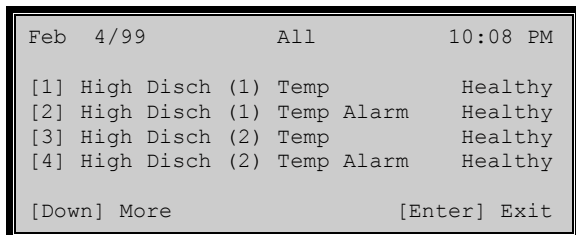

Figure 7-2
- (d) The first of several Shutdown List screens (Figure 7-2) will displayed.